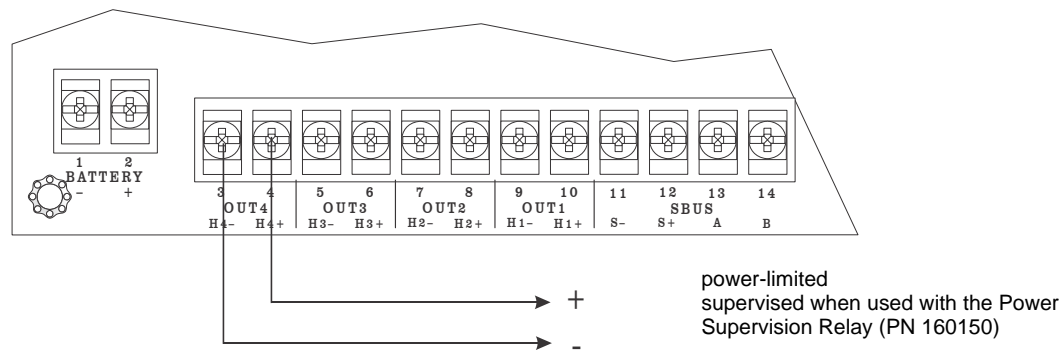

Figure 3.9 Output Circuits Used as Auxiliary Power
1. Wire the output circuit(s) that will be used for auxiliary power. See Figure 3.9 below for the location of the output circuits.